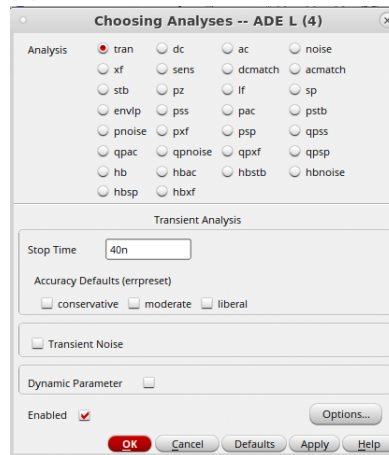

Figure 1.24: (a) Transient simulation parameters; (b) Voltage pulse source parameters.
- Specify the parameters of your pulse source as shown in Fig. 1.24 (a). Note that this time, the DC voltage is specify as *Voltage2* and not as DC Voltage. Here, the period of your source is specified as a parameter *period*. You will be able to change this parameter in the ADE window later on. The rising and falling times depends on your period.
4. Specify a transient analysis (*Analyses -> Choose... -> tran*) as shown in Fig. 1.24 (b) and just specify the stop time (8ns in this case in order to observe 4 period).